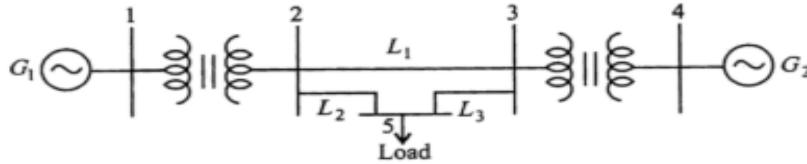

Fig.2
5. Figure 2 shown below shows a power system, where load at bus 5 is fed by generators at bus 1 and bus 4. The generators are rated at 100 MVA; 11 kV with subtransient reactance of 25%. The transformers are rated each at 100 MVA, 11/112 kV and have a leakage reactance of 8%. The lines have an inductance 14M